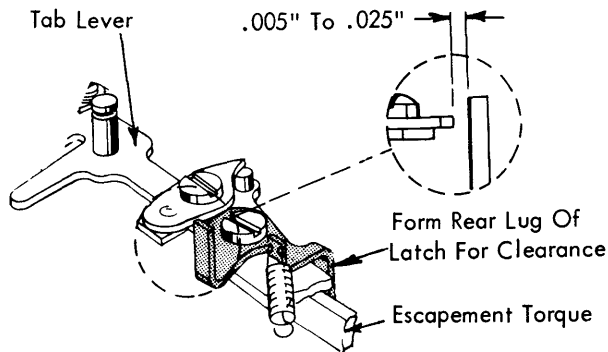

FIGURE 168. Tab Interlock Adjustment
7. Tab Interlock - With the carrier return clutch latched, the escapement torque bar should rotate the tab latch away from the tab lever pawl by .005" to .025" (Fig. 168). Form the lug on the tab latch that extends down behind the escapement torque bar.